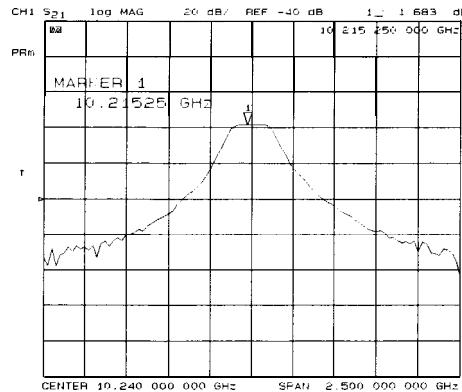

Figure 2-30. Example Magnitude Response Measurement Results
6. To locate the maximum amplitude of the device response, as shown in Figure 2-30, press: